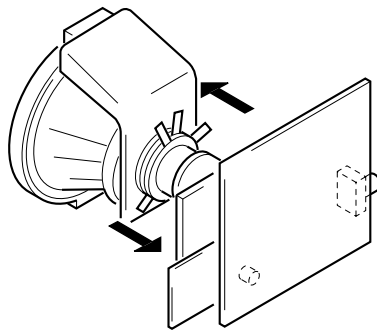

Fig. 3-2
2. Position neck assy as shown in Fig3-2.
5. Move the deflection yoke forward and adjust so that the entire screen is green. (See Figure 3-2.)